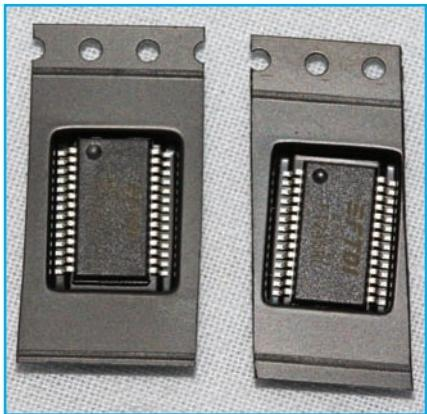

Fig.1. The FT232RL and FT245RL chips are surface-mount types that have 0.65mm pin spacing. The plastic case is fractionally more than 10mm long.
The FT232RL provides a full set of handshake lines, as does the UM232R development module (Fig.1) for this chip. The FTDI development modules have standard DIL pins, and provide an easy option for those who are not prepared to battle with the surface mount encapsulation and 0.65mm pin spacing of the raw chips.
*Fig.1. The UM232R module provides a relatively easy way of using the FT232RL USB interface chip. The DTR and RTS outputs of the module can be controlled directly using Visual BASIC 2008 Express Edition*